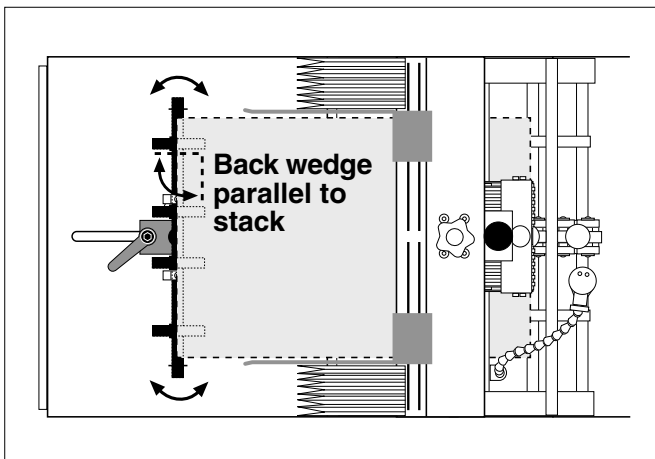

Figure 3-13. Adjusting Back Wedge for Parallel
5. Make sure the edge of the back wedge assembly is parallel with the edge of the product stack (Figure 3-13). Adjust as required and then tighten wing-nut.